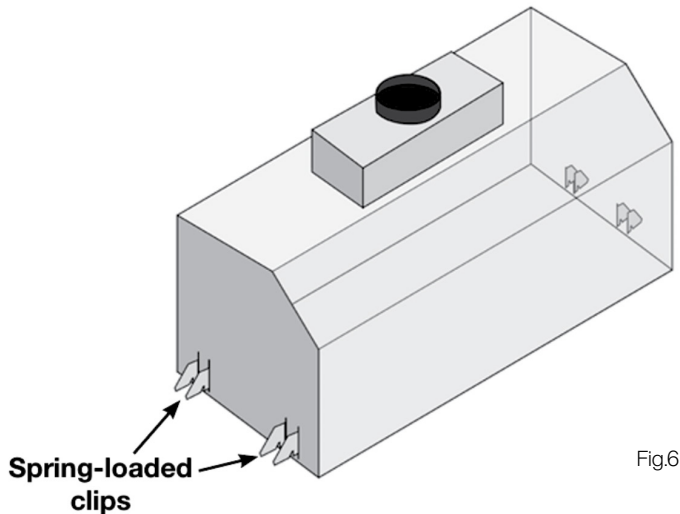

Fig.6
1. To install the appliance, adjust the position of the adjustable side-springs using the supplied screws (Fig6), according to the thickness of the board, in which the appliance will be fixed.